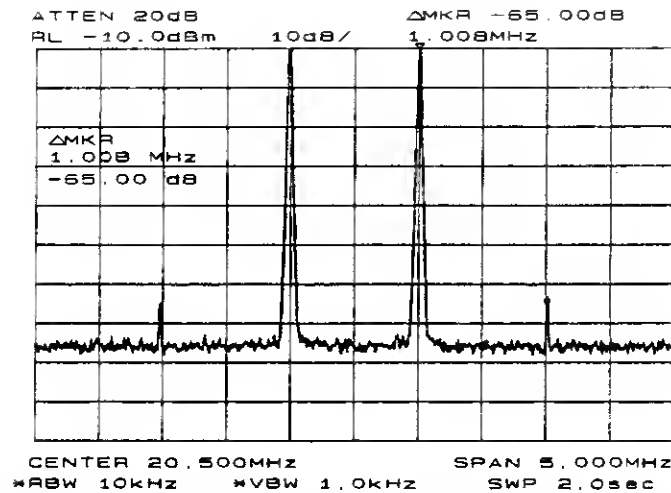

Figure 3-10. Intermodulation distortion measured in dBc.
4. For this type of measurement, distortion-free dynamic range is an important consideration. To maximize such dynamic range, set the mixer input level to -30 dBm by pressing **AMPLITUDE**, **MORE 1 OF 3**, **MAX MXR LEVEL**, and enter -30 dBm. The spectrum analyzer automatically sets the attenuation so that the maximum signal level is seen at the input mixer when the signal is at or below the reference level. (See Appendix G.) You will hear the input attenuator click; notice that the value of the attenuator is now 20 dB. See Figure 3-10.
5. Once a marker is activated, the marker-delta function activates a second marker and displays the difference between the two markers. Relative measurements can then be performed easily. To measure a distortion product, press **PEAK SEARCH** to place a marker on a source signal. To activate a second marker, press **MARKER DELTA** and **NEXT PK LEFT** or **NEXT PK RIGHT** to set the second marker on the peak of the distortion product that is beside the signal source, as in Figure 3-10. The difference in frequency and amplitude between the two markers is displayed in the active function block.